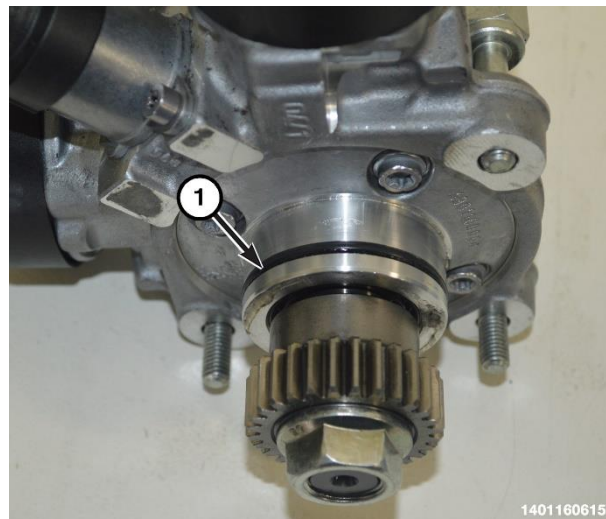

Figure 141 – O-ring Seal
81. Install a **NEW** O-ring seal (1) to the fuel injection pump (Figure 141).